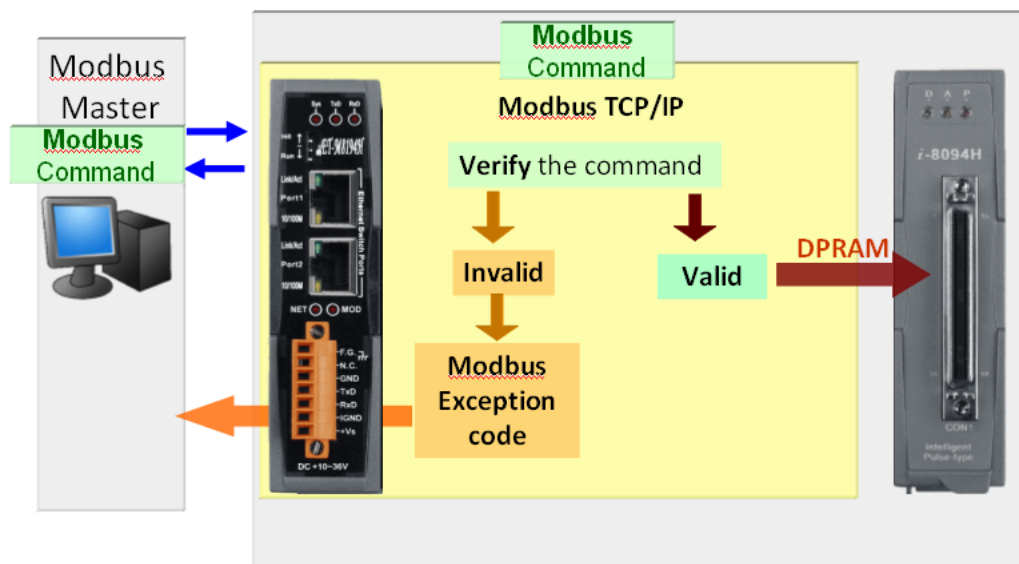

Figure 1: ET-M8194H module in slot 0 of the motion device
- The ET-M8194H module (Figure 1) in slot 0 is the unit which is mainly responsible for the Modbus communication between the Master and Slave. The main task of the module is to verify and filter every command arriving at its TCP/IP port according to its current state and consequently decide whether to transfer the command to the i8094H or if the command is not supported by the respective state ignore the command and respond to the Master with a Modbus exception code.